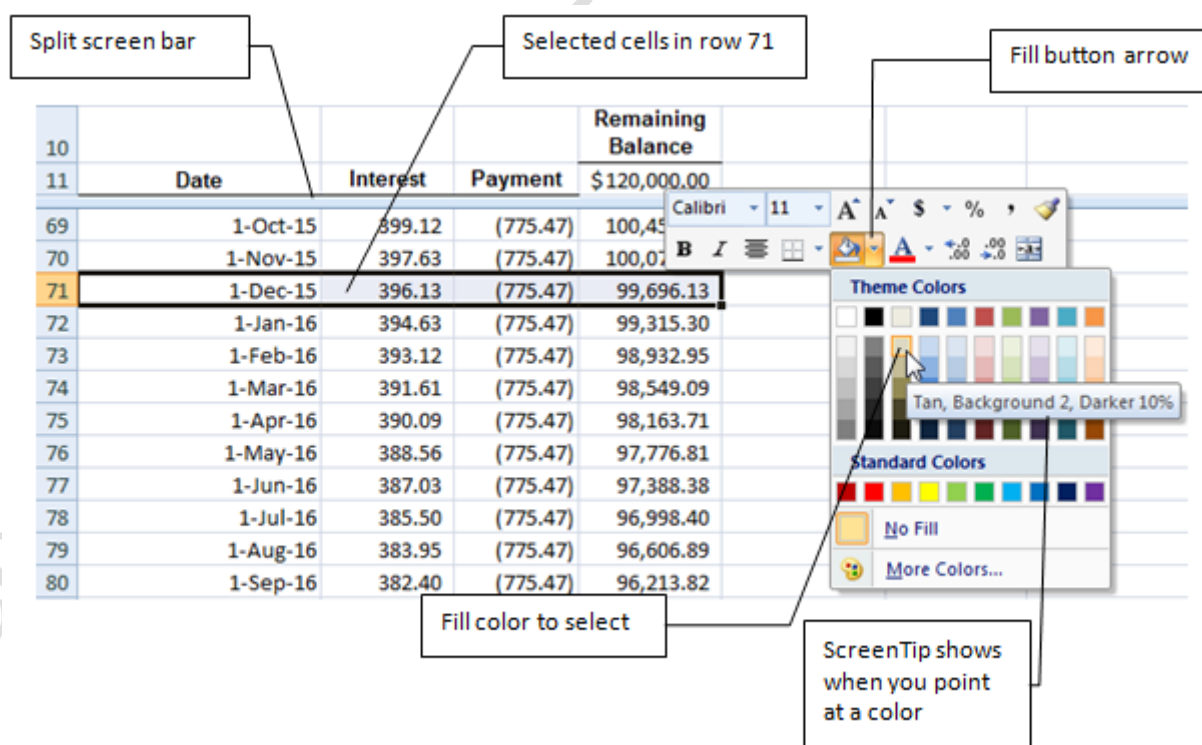

Figure 11.19. A fill color is applied to the values for a payoff in 5 years on 1-Dec-15.
15. Select cells A71:D71. Right-click the selected cells, and on the Mini toolbar, click the Fill Color arrow. In the color palette, in the second row, third column click to apply the *Tan, Background 2, Darker 10%* fill color. When you point to each of the color chips a ScreenTip displays the name of the color as shown in Figure 11.19.